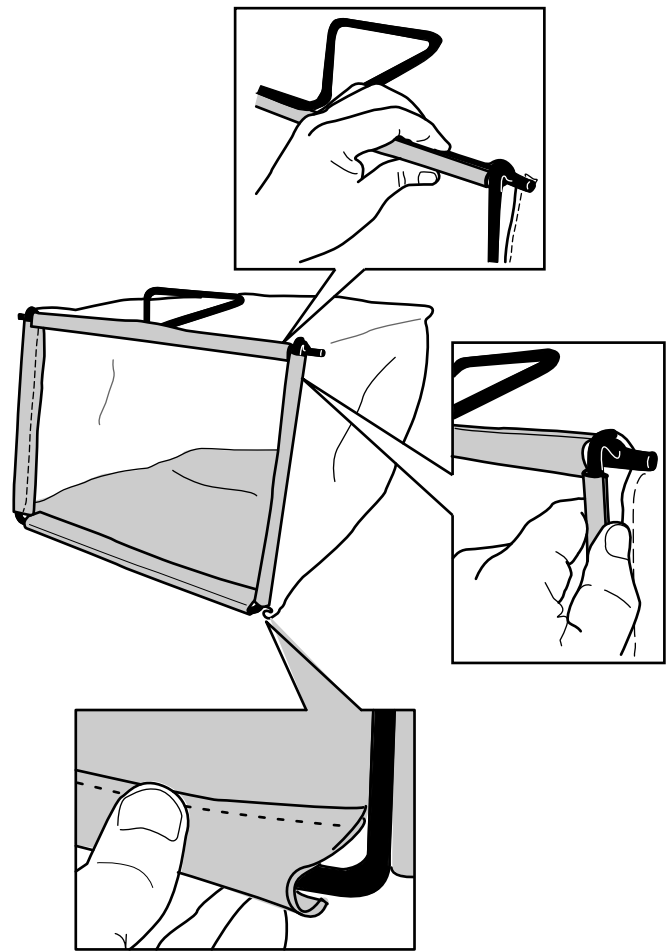

**Figure 8**
1. Slip the grass bag over the frame as shown in Figure 8.
**Note:** Do not slip the bag over the handle (Figure 8).